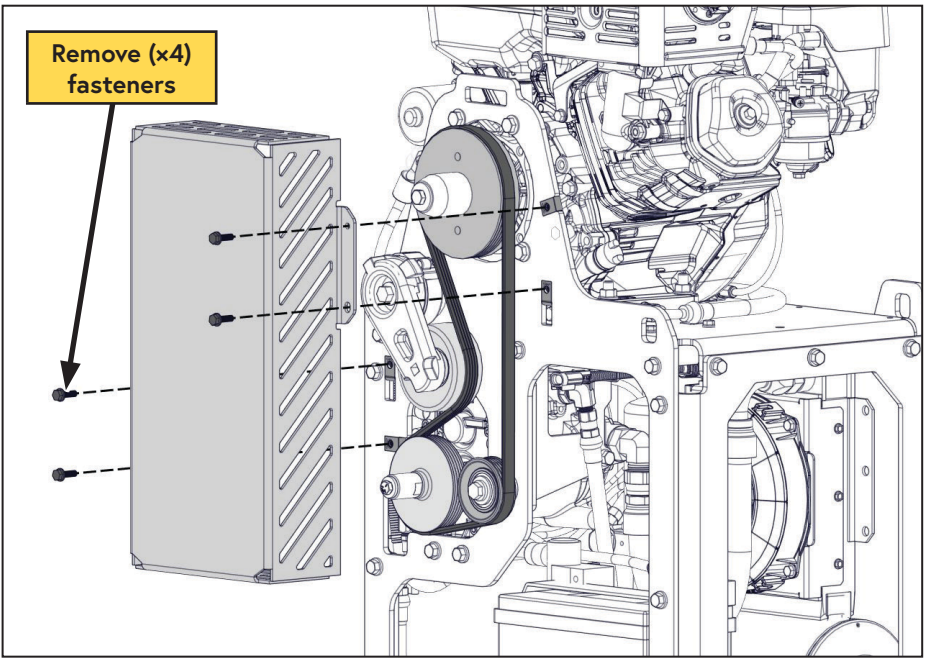

Figure 64 — Inspecting the drive belt
- Remove the (x4) fasteners from the belt guard and remove the belt guard (Figure 64).